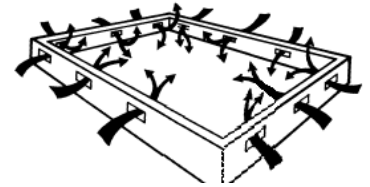

Figure 1
- Crawl spaces must be a minimum of 450mm (18") from the ground to underside of joists. A ground cover of 6-8 mil polyethylene film is essential as a vapor barrier with joints lapped 200mm (8") and taped. The crawl space should have perimeter venting equal to a minimum of 1.5% of the crawl space square footage. These vents should be properly located to foster cross ventilation (see figure 1). Local regulations may prevail.